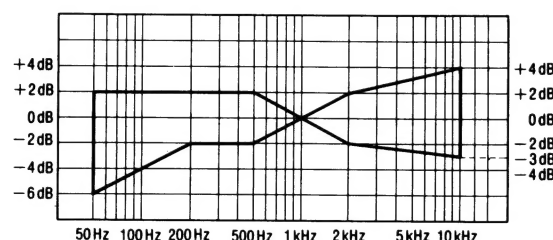

Fig. 2
2. Playback the signal recorded in step 1, and check that the level of each output frequency is within the range shown in Fig. 2 in comparison with the reference frequency (1kHz).